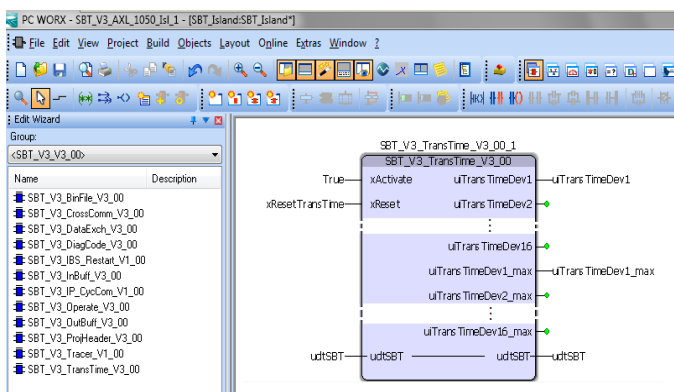

Figure 3-39 “SBT_V3_TransTime_V3_00” function block
- Connect the function block as shown in Figure 3-39.